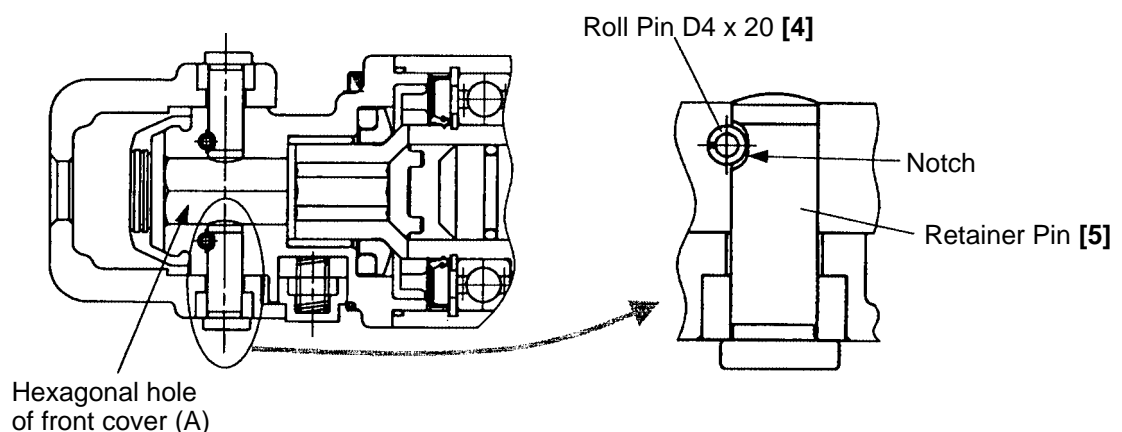

Fig. 21
(5) Reassembly of retainer
Mount the Retainer Pin [5] aligning the notch of the Retainer Pin [5] with the hole of the Roll Pin D4 x 20 [4]. Do not allow the Retainer Pin [5] to project into the hexagonal hole of front cover (A) (it is recommended to insert a hexagonal bull point into the hole). (Fig. 21)